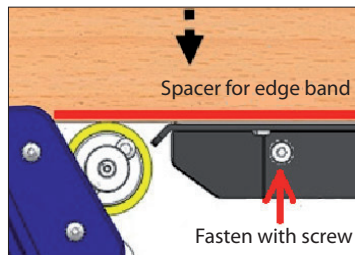

Fig 2
- Make sure the roller is horizontal to the back fence and fasten by screw (Fig 2).